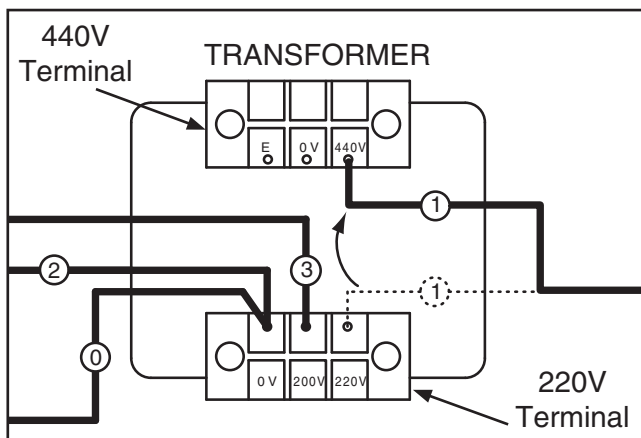

Figure 5. Rewiring transformer from 220V to 440V.
3. On the transformer, remove the #1 wire connected to the 220V terminal and connect it to the 440V terminal, as shown in **Figure 5**.